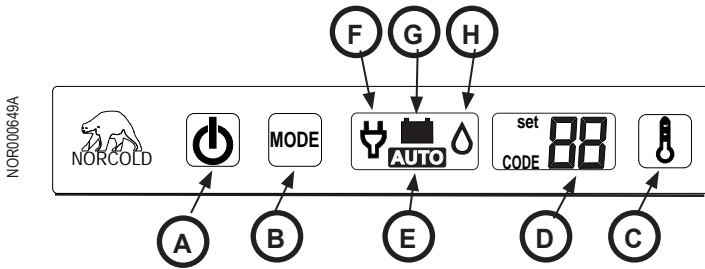

Fig. 15 - N7LX and N8LX user interface (control locations)
Touch and release the Power ON / OFF button (See Fig. 15, A) to turn on the refrigerator.
Touch and hold the Mode button (See Fig. 15, B) to scroll through the available modes of operation of the refrigerator, one after the other. When the desired mode indicator comes on, release the Mode button.
- **AUTO Mode:** The AUTO Mode indicator (See Fig. 15, E) comes on and the refrigerator controls automatically select the most efficient energy source that is available.
- The first choice of operation is AC electric. If available, the refrigerator controls select AC electric as the power choice and the AC mode indicator comes on also (See Fig. 15, F).
- If unable to establish and maintain a flame, a "no" FL" fault code shows on the LCD display (See Fig. 15, D). Refer to the "Fault Codes - N7LX and N8LX Models" section.
- On 3-way models only, if neither AC electric nor gas is available, the controls select DC electric as the power choice the DC mode indicator (See Fig. 15, H) comes on also.
Touch and release the Temperature Set button (See Fig. 15, C) to view the current temperature setting.